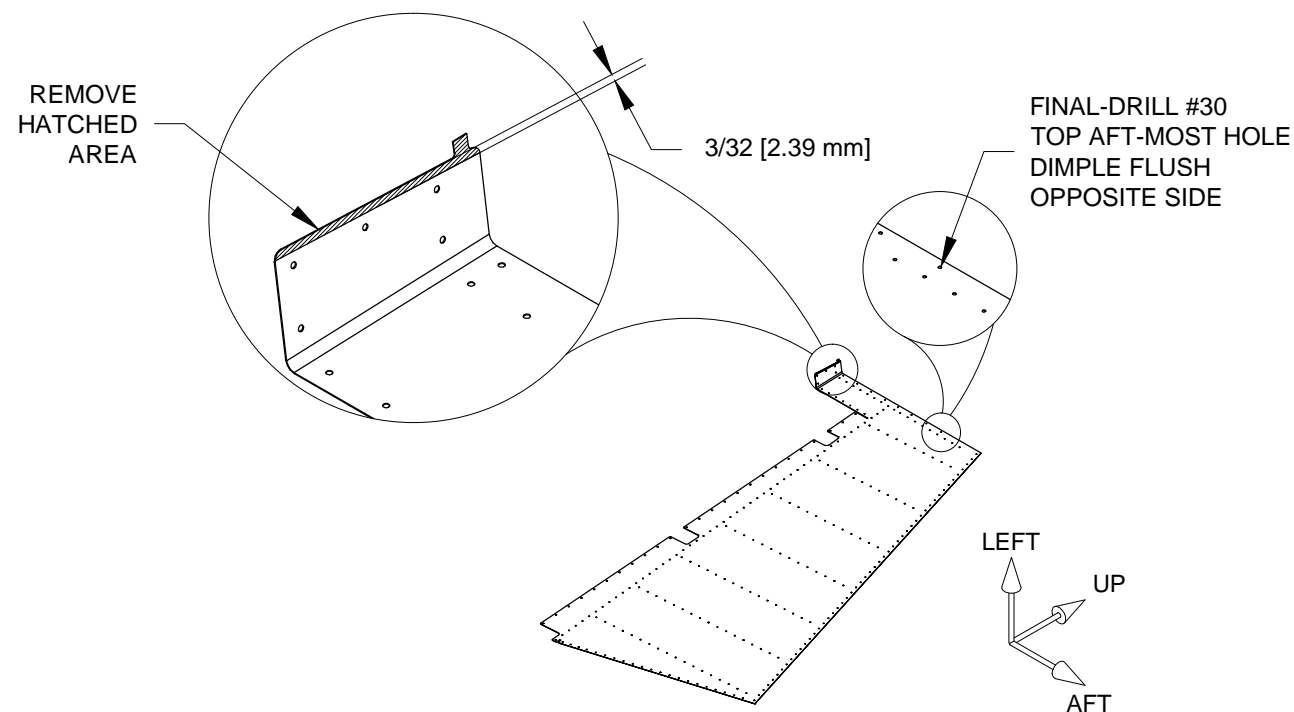

FIGURE 1: RIGHT RUDDER SKIN TRIM
Step 2: Final-Drill #30 the 3/32 [2.39mm] hole in the R-00901-R-1 Rudder Skin as called out in Figure 1. Dimple for CS4 rivet flush on the surface opposite the flange bend direction.